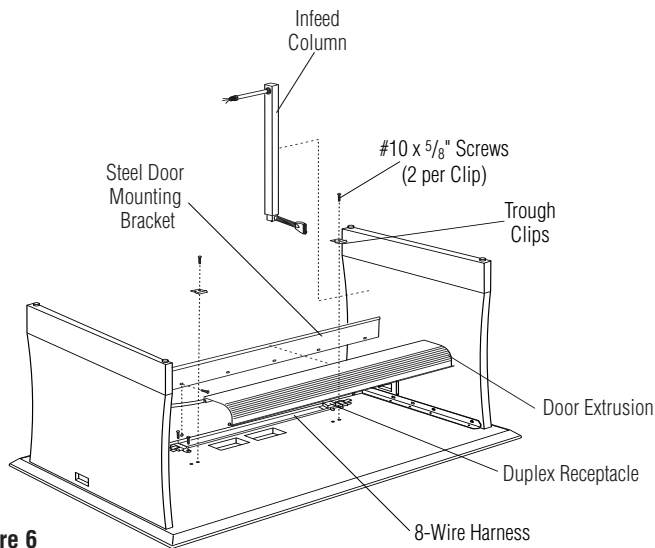

Figure 6
1. With table still inverted, slide the metal door hanging into the plastic door extrusion and center it on the center support brace with 1/4" x 1/2" machine screws (Figure 6). Note: plastic door extrusion will curve onto bottom side of table top.